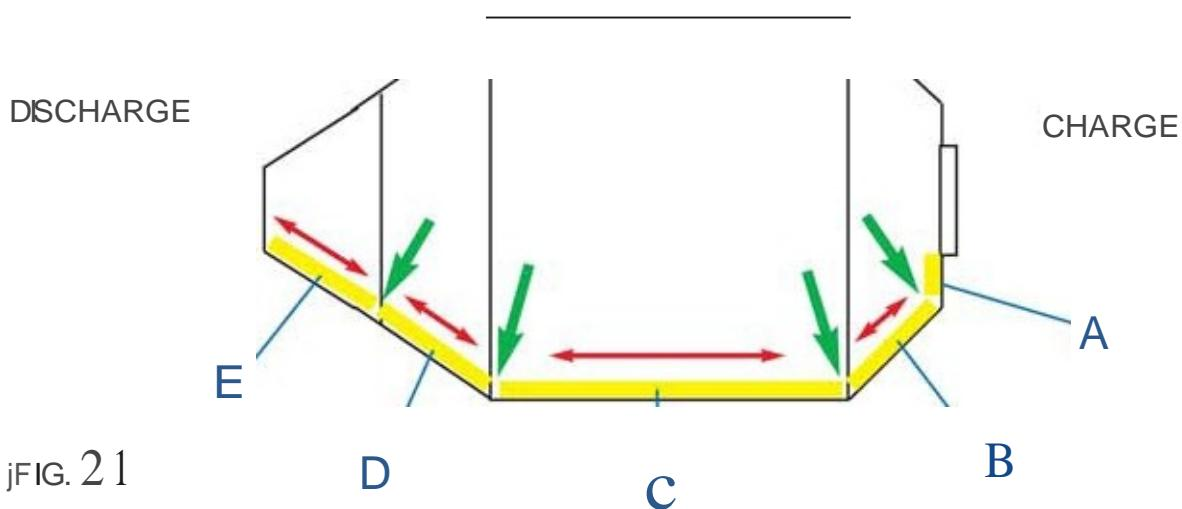

FIG. 2
Liner sections are installed beginning at the charge end of the drum and ending at the discharge end. Before installing, it is recommended that (1) of each section (A,B,C,D & E) first be positioned on the drum bottom as shown in FIG. 2. Ideally the gaps between the sections should be $1/8$ " or less. If there are gaps greater than $1/8$ " in the seams of panels A through E, adjust the position of the panels as to even-out the disparity in the gaps. Note that the panel seams may be not concisely match the drum weld seams. Tack weld the panels in place (see FIG. 3) welding only 4 to 5 weld plates on each liner section.